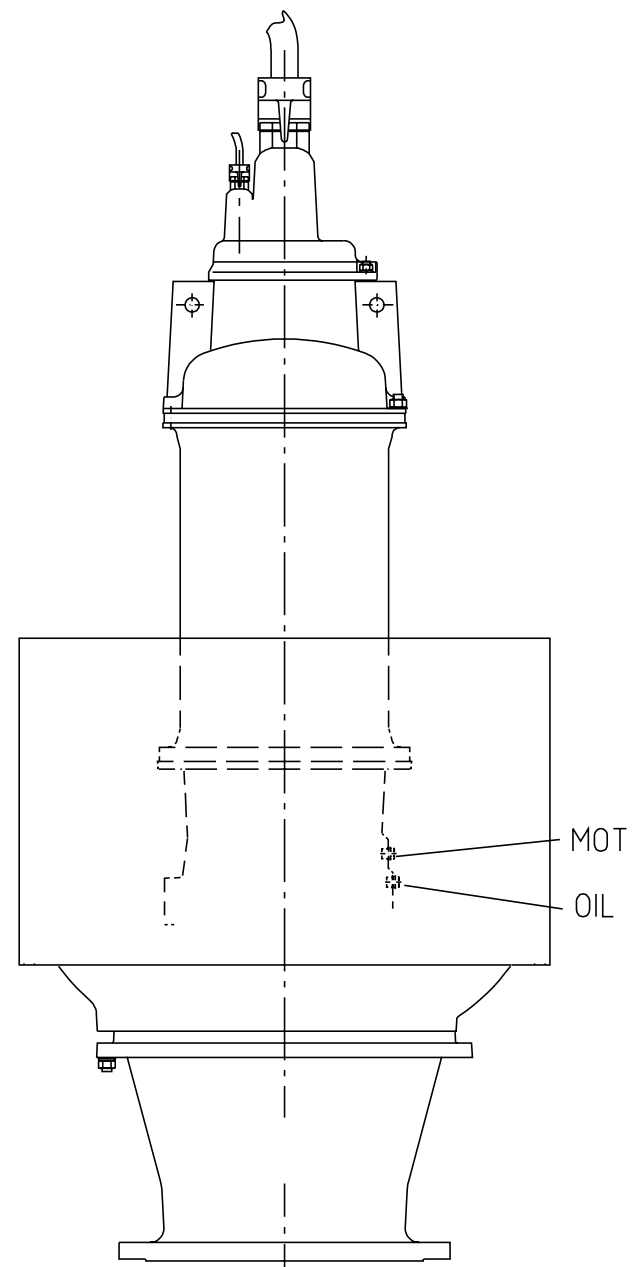

Fig. 5
KEY FOR SYMBOLS ON FIG. 5:
Stand pump vertically on its suction flange. Remove screw plug "MOT" (Fig. 5) with copper washer (536) so that any liquid can run out. Do the following repairs according to what comes out of the motor housings:
Connect source of dry air (from air compressor or bicycle hand pump) to opening left by removal of plug "MOT" (Fig. 5). Air pressure should be a maximum of 0.5 bar (7 psi). Motor should then be totally submerged in a test tank.